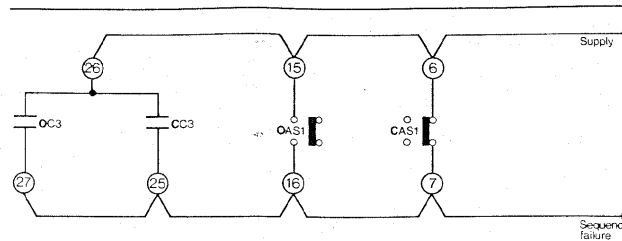

Figure 6
2. Sequence failure alarm (valve stopped in mid-travel Figure 6). With automatic sequencing it is important to know if the valve has failed to complete its travel. This may be due to loss of three phase supply, loss of control supply, unauthorized local stop or, very rarely, valve obstruction causing torque switch trip in mid-travel. Connecting OC3 and CC3 in parallel with auxiliary limit switches OAS 1 and CAS 1 as shown in Schematics Form B on Pages 7 and 9 enables this failure to be detected. An alarm relay normally energised through these contacts will only be de-energised in the event of contactor trip at an intermediate position.